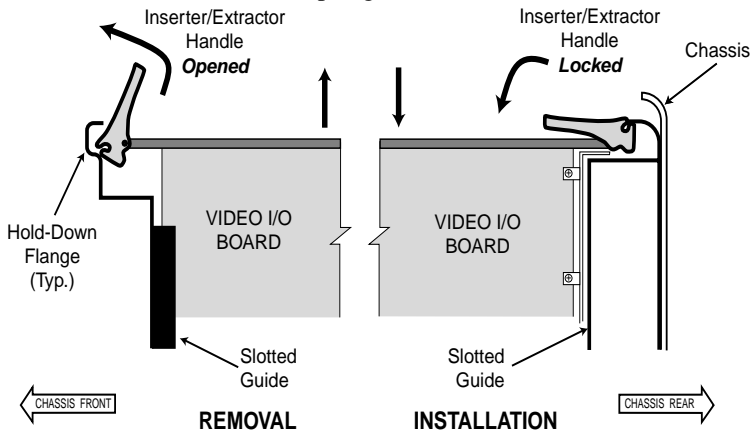

Figure 4-6. CPCI Board Inserter/Extractor Handles
- [] 2. Remove the CPCI Board from its anti-static packing material, and open its Inserter/Extractor Handles (handles face away from board; refer to Figure 4-6.)
- [] 4. Refer to Figure 4-6. With firm pressure, rotate the Inserter/Extractor Handles inwards (towards the center of the board) to engage the front and rear chassis hold-down flanges.
- [] 2. Remove the CPCI Board from the chassis by opening its Inserter/Extractor Handles (rotate handles away from board; refer to Figure 4-6.)